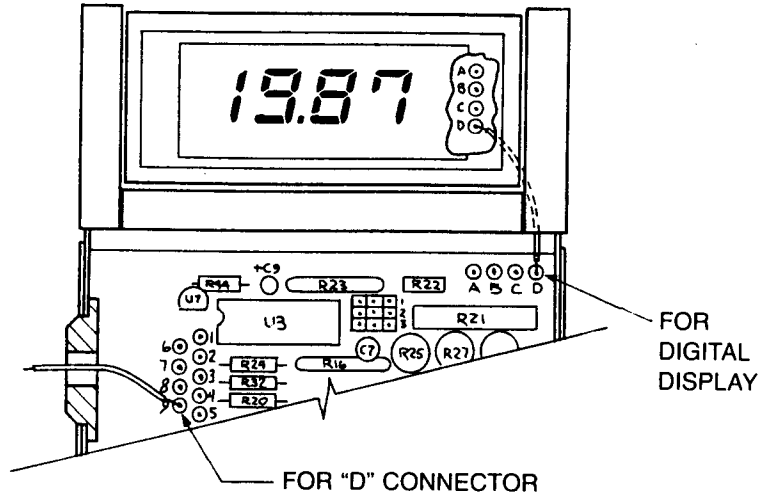

Figure 2-3. PCB Input/Output Solder Pad Assignments
The following connection points can be made through the D connector or, in OEM applications, made through the circuit board solder pad connections. The display pad connections are shown for applications requiring remote mounting of the digital display. The letters appear on the display circuit board and are shown in Figure 2-3.
One special design OEM version transducer has an electrical port (hole) on its side for electrical input/outputs. This port is just above the input power jack (see the exploded view, item 27, in Appendix 1). Wires entering via this port are soldered to the printed circuit board as shown in Figure 2-3. The solder pad assignments are given in Table 2-1.